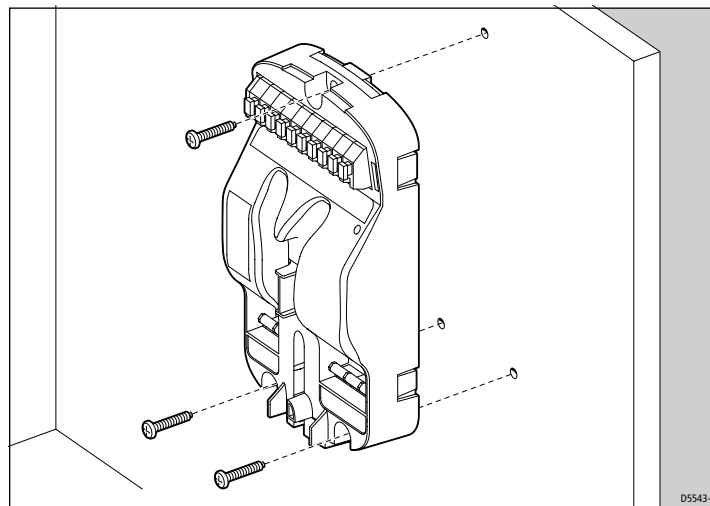

Figure 2-15: Securing Pod
3. Drill three pilot holes for the Pod mounting screws, then secure the Pod to the mounting surface with the screws provided, as in *Figure 2-15*.